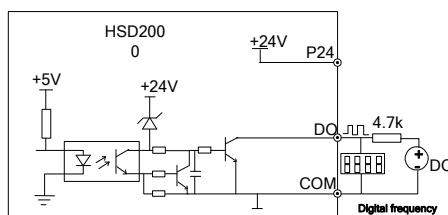

Figure 4-24: Output Terminal DO Connection 2
- Digital pulse frequency output DO may use external power supply. Wiring may refer to Figure 4-24.